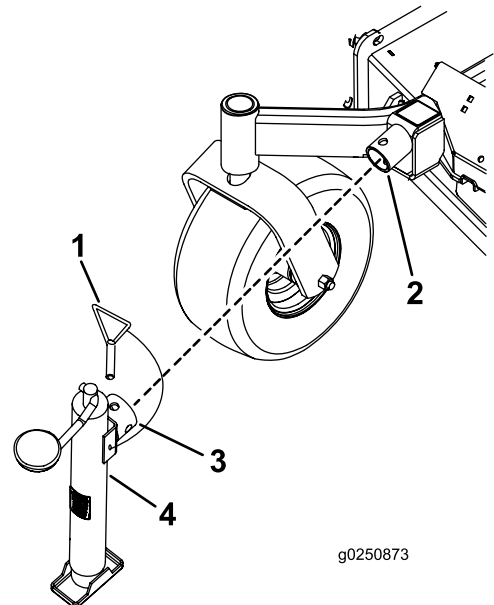

Figure 2
5. Insert the jack tube onto the jack mount, align the mounting holes, and secure the jack with the jack pin (Figure 2).
11. Remove and store the jack (Figure 2).